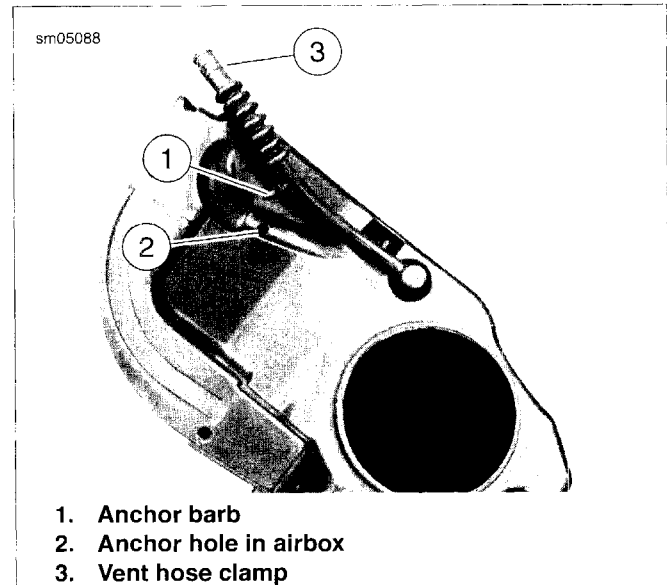

Figure 4-2. Front Crankcase Vent Hose
1. See Figure 4-2. Install any hoses that have been removed from the airbox assembly. Ensure the anchor barb (1) of the front crankcase vent hose is securely installed in the hole (2) in the airbox bottom.